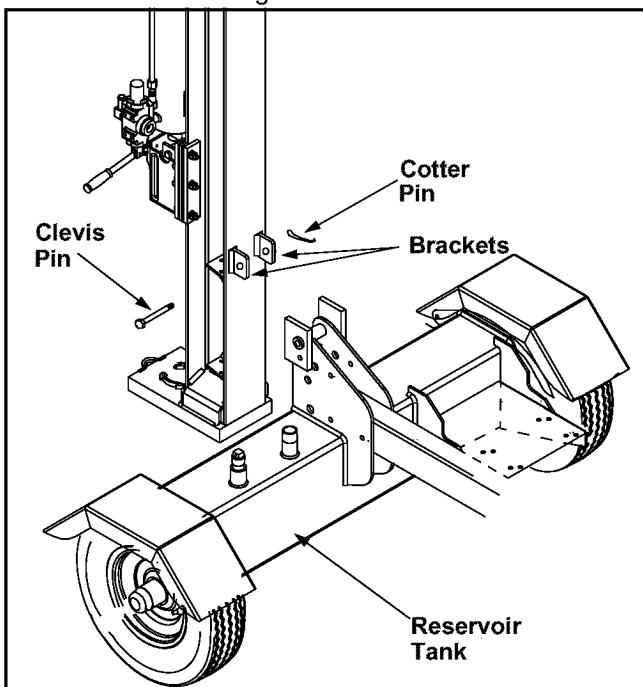

Figure 7
- Insert clevis pin just removed through brackets on beam and reservoir tank assembly. Secure with cotter pin by bending the ends of the pin in opposite directions. See Figure 7.